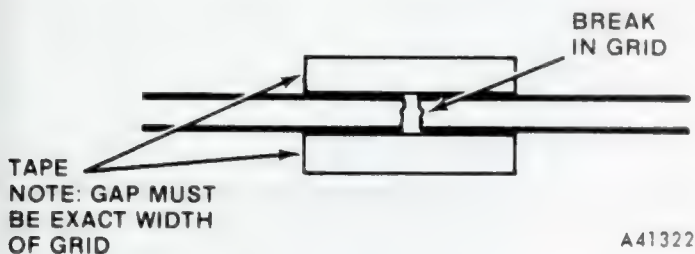

Fig. 3U-6 Rear Window Defogger Grid Repair
(1) Using suitable marking pencil, mark location of broken or open grid on exterior surface of glass.
(2) Using fine steel wool, lightly rub area to be repaired (inside of rear window). Clean area with alcohol.
(3) Attach two strips of cellophane tape (inside of rear window) above and below break in grid (fig. 3U-6).